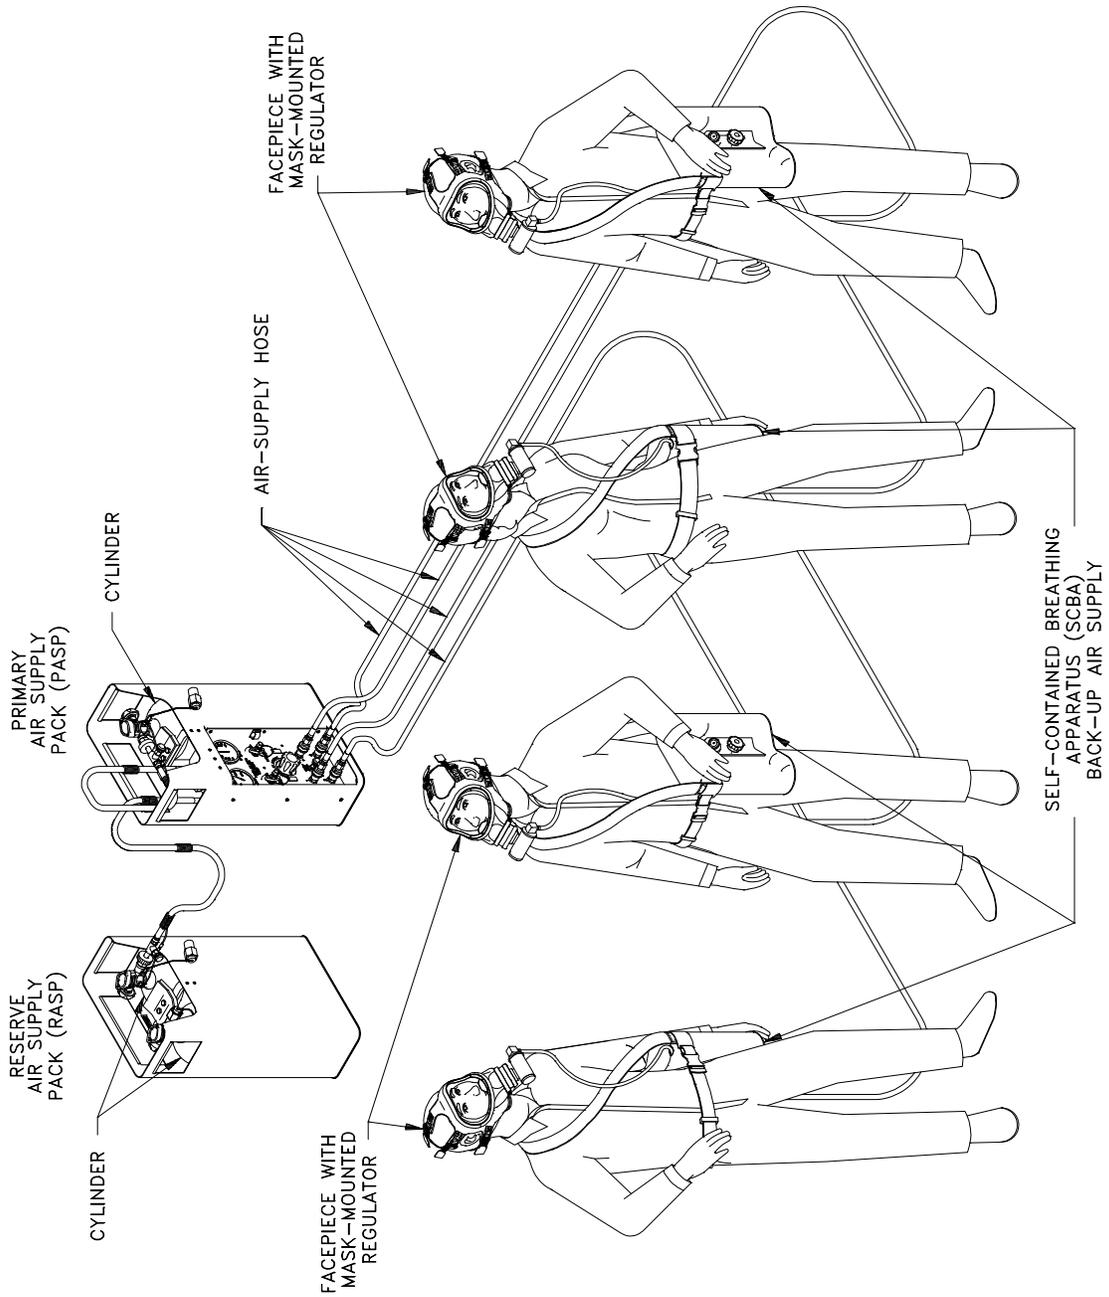

Figure 1-1. Supplied Air Respirator (SAR) with Self-Contained Breathing Apparatus (SCBA) Component Interrelationship Diagram
1.2.1 Purpose. The purpose of this manual is to provide information and procedures necessary to operate, maintain, troubleshoot, and repair the SAR/SCBA (Figure 1-1). The maintenance information provided will support planned maintenance and repair of the SAR/SCBA at the Organizational and Intermediate levels.